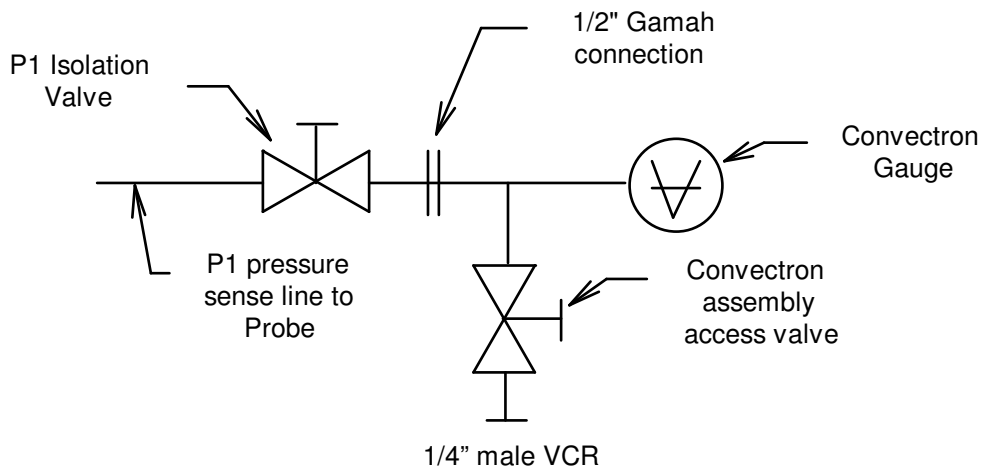

Figure 3 Utility Turbopump System configuration and nomenclature
- L.1.4 Remove the KF-40 cap at the guard valve on the PPMS and connect a flexible pumping line to the UTS (Fig. 3).